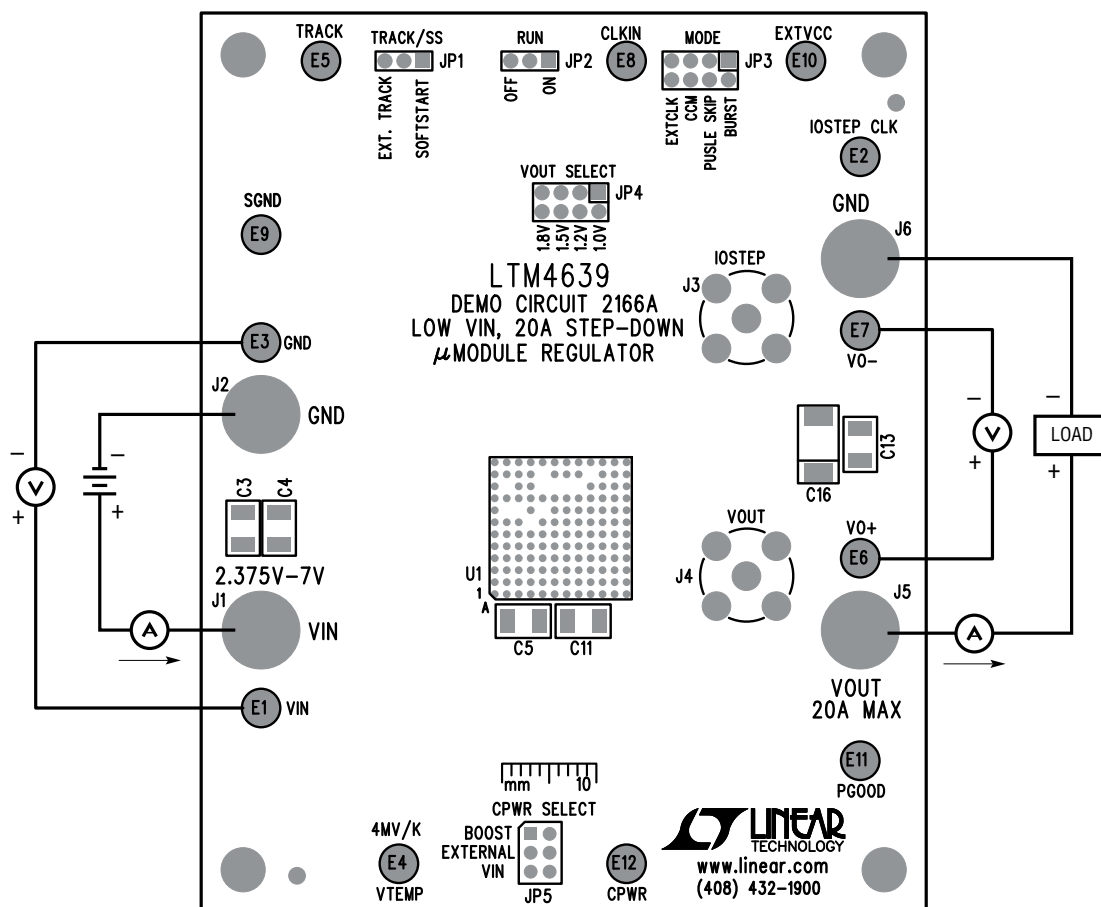

Figure 1. Measurement Setup of DC2166A
Demonstration circuit DC2166A is an easy way to evaluate the performance of the LTM4639EY. Please refer to Figure 1 for proper measurement equipment setup and follow the procedure below:
- With power off, connect the input power supply, load and meters as shown in Figure 1. Preset the load to 0A and  $V_{IN}$  supply to 3.3V.